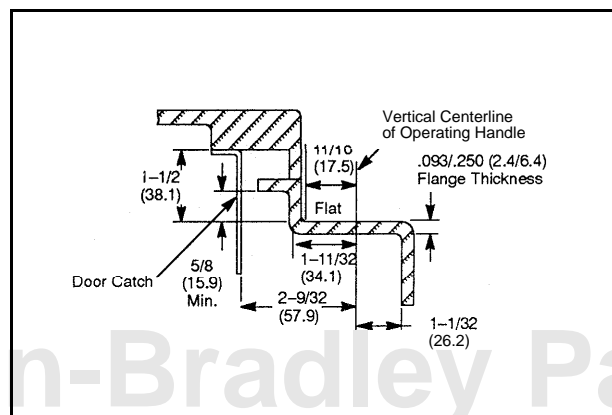
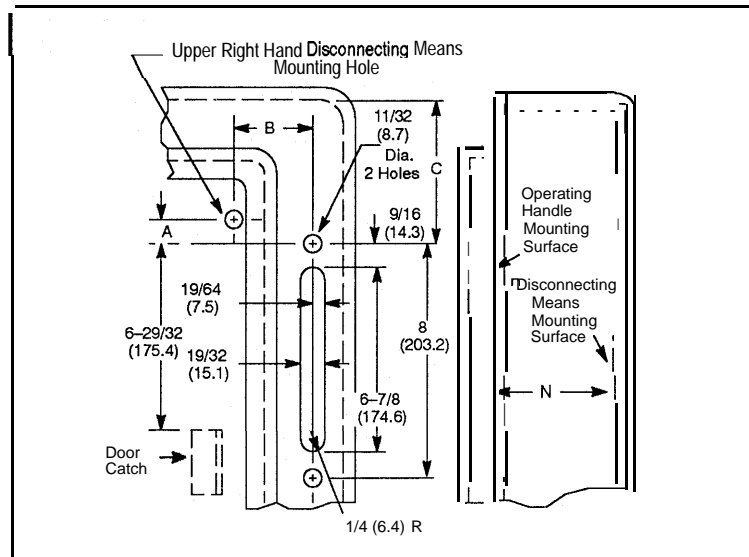
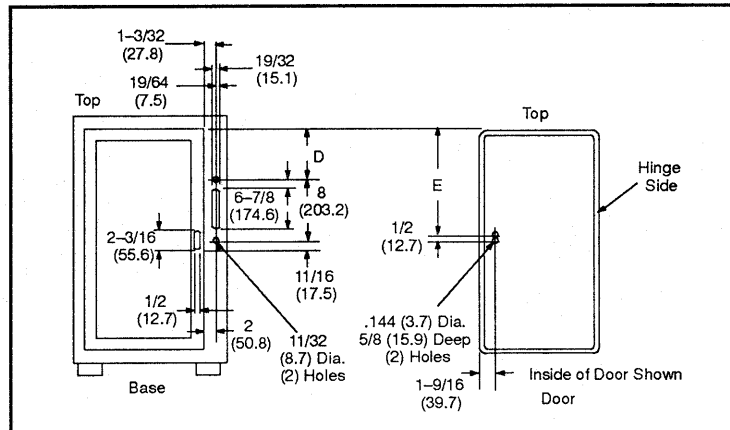

Figure 1 - Flange Details
Figure 2 - Flange Drilling
Figure 4
1. The flange details and door catch location must be per Figures 1 and 2 of this instruction sheet. The balance of the enclosure dimensions must meet the requirements of the disconnecting means installation instruction sheet.
2. Provide the flange drilling as required in Figure 1 and Figure 2 on Page 2. (Except for Bulletin 1450 Enclosures.)
3. Locate the upper right hand mounting hole for the disconnecting means as shown in Figure 2. To locate the remaining mounting holes, use the disconnecting means instruction sheet.
5. Fasten the door catch as shown in Figures 1 and 2. Hardware to be supplied by user. For Allen-Bradley Bulletin 1450 corrosion resistant glass polyester enclosures, the two #8-18 x 5/8" (15.9) thread cutting screws furnished are used. (See DR and ER module modifications on page 3 and hole information in figure 4, page 4.)
1. Provide the flange drilling as shown in Figure 4.